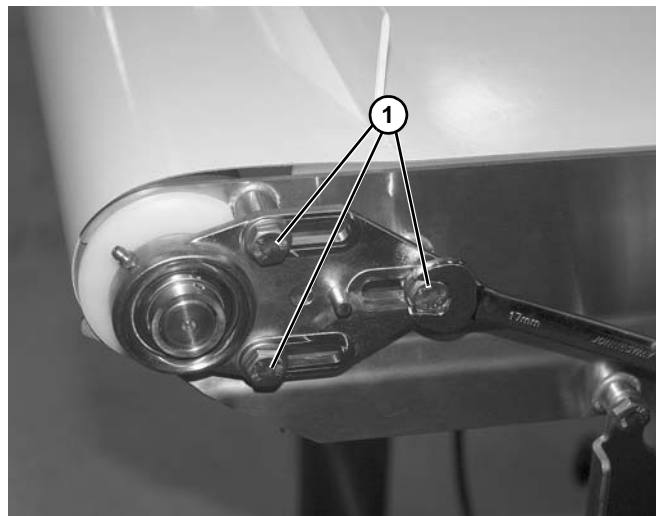

Figure 124
5. Remove the headplate screws (**Figure 124, item 1**).